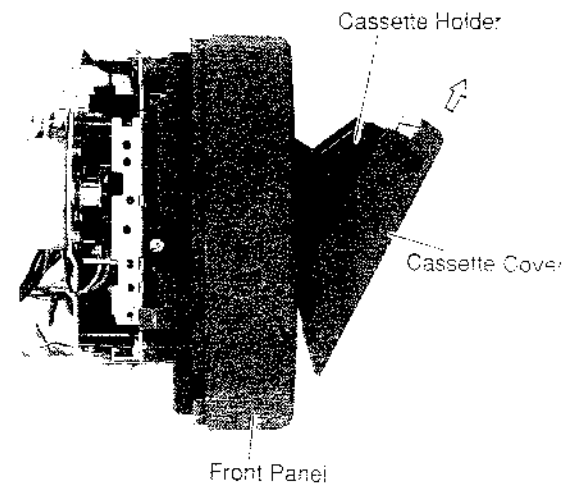

Figure 4
- (1) After removal of the Deck Mechanism (A), open the Cassette Holder.
- (2) Remove the Cassette Cover in the direction of the arrow as shown in Figure 4.